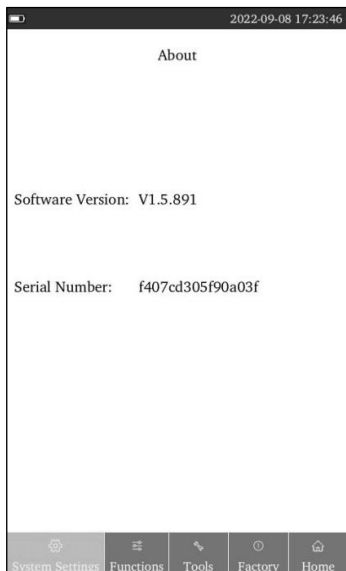

Fig 16
- 6) Tap "**About**" to enter the interface for more information related to the analyzer. The Software Version and Serial Number are displayed on the screen. (Ref Fig 16)